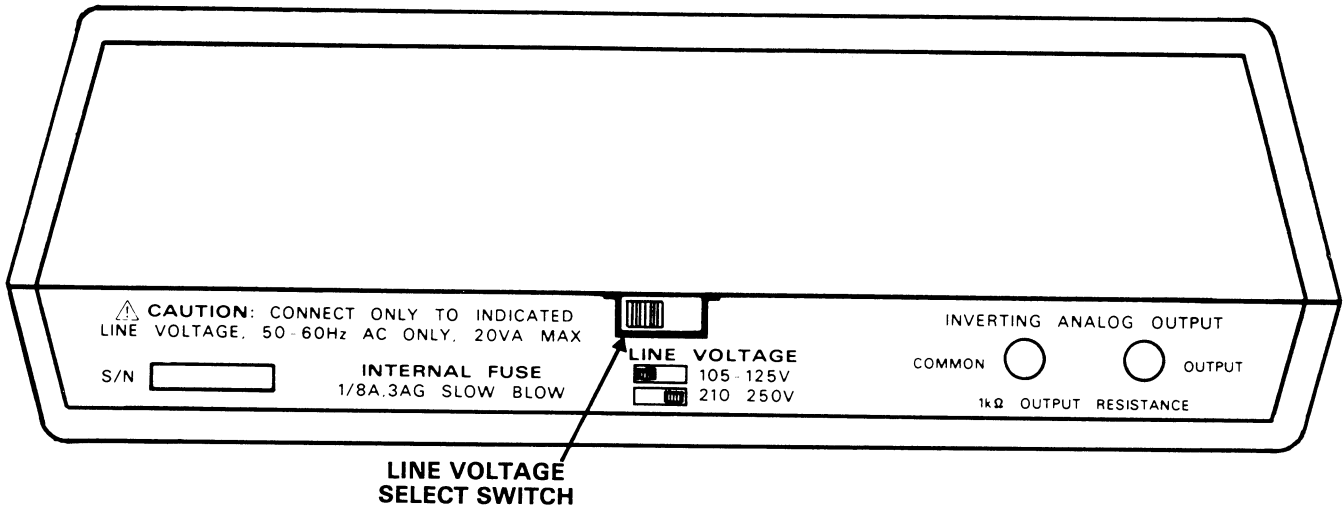
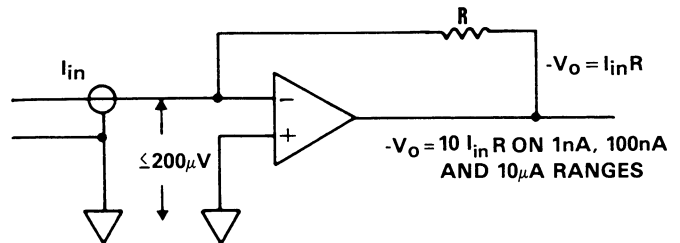

Figure 2-1. Model 480 Rear Panel
Figure 2-3. Model 480 Feedback Picoammeter
The Model 480 may be line operated from either 105-125V or 210-250V power sources. Before connecting the instrument to the power line, make sure the LINE VOLTAGE selection switch (Figure 2-1) is in the correct position.
6. Inverting Analog Output. Two banana jacks (shown in Figure 2-1) are rear panel accessible, and permit monitoring or recording of the output from the current-to-voltage converter within the Model 480. Since the 480 is a feedback picoammeter, as shown in Figure 2-3, the input current is forced through the feedback resistor and an inverted analog output voltage is developed by the operational amplifier. The feedback (Range) resistors are selected such that voltage for an on-scale reading on any range will be between zero and  $\pm 2V$ . The relationship between the analog output signal and the digital display is